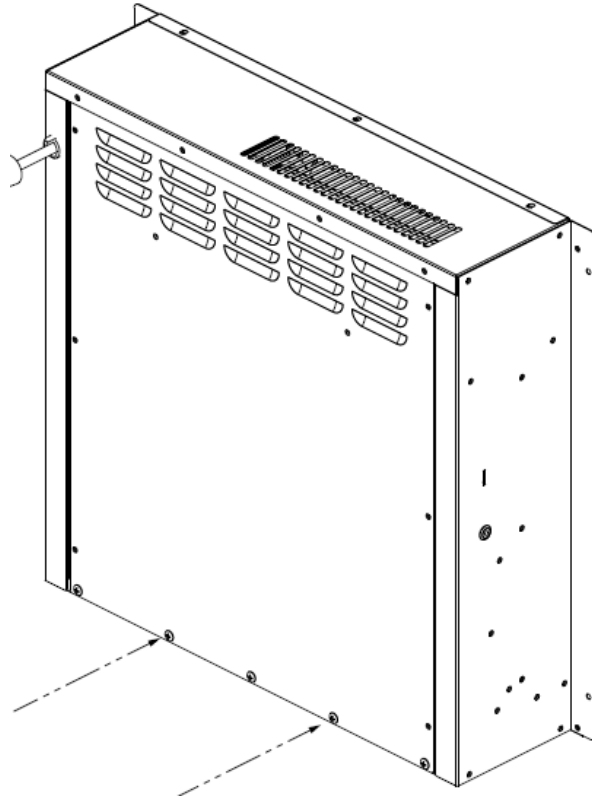

Fig.1
Step 1, Remove the back panel's two silver screws out of appliance, please see Fig.1